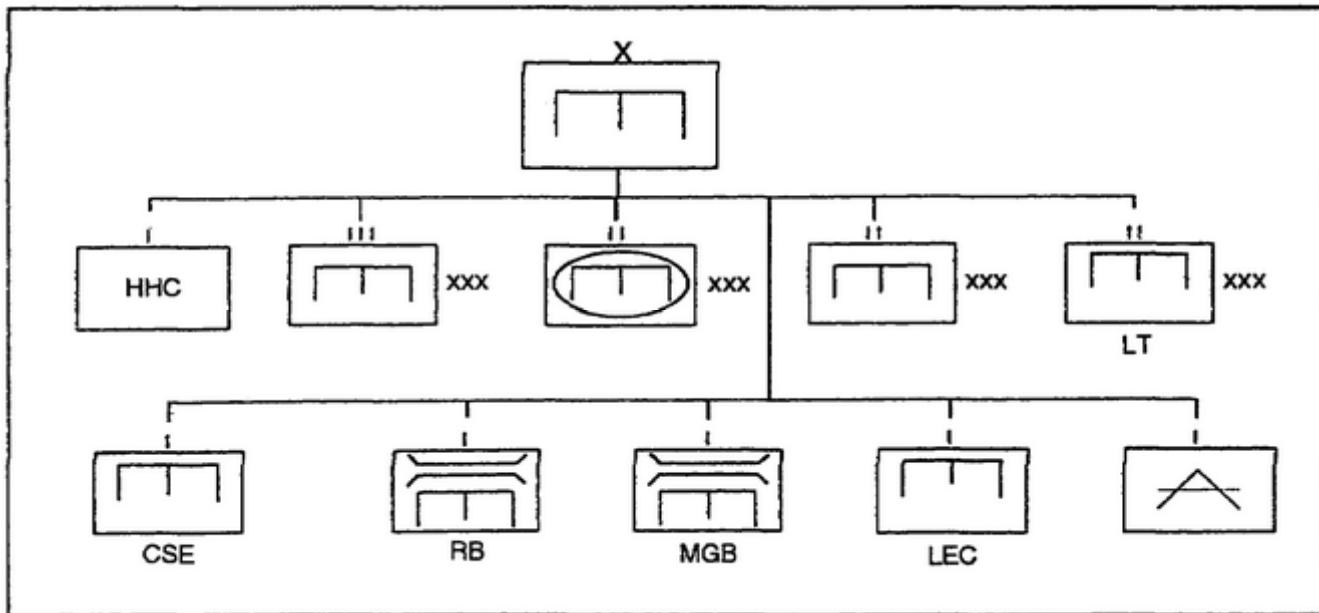

Figure 2-1. Corps engineer brigade.
- (1) The corps engineer brigade is a large organization that contains the C² structure necessary to sustain a fully developed corps area of operations. It also contains specialized engineer units that support combat operations. The brigade can task-organize subordinate engineer units to accomplish current and future missions. It focuses on future operations to ensure that task organizations develop early and give engineer units sufficient time to move.
- (2) Figure 2-1, page 2-6, shows a sample corps engineer brigade. It has three armored divisions, one light division, one separate armored brigade, and one armored cavalry regiment. The two combat engineer groups are flexible organizations that have no fixed number of battalions or separate companies. They are given GS engineer responsibility.
- (3) The corps combat engineer battalion (mechanized, wheeled, and light corps) has three engineer companies, nine combat support equipment (CSE) companies, and one light equipment company (LEC). Ribbon bridge (RB) and medium girder bridge (MGB) companies are located at the brigade, and AVLBS are located in the division area. The corps engineer controls bridging and task-organizes it according to mission and corps priorities.